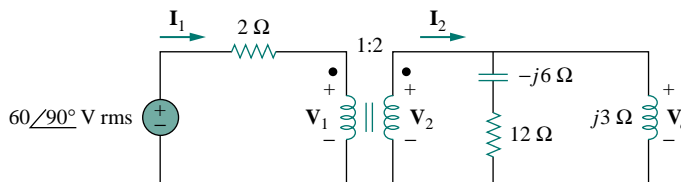

Figure 13.108 For Prob. 13.41.
- 13.41** For the ideal transformer circuit of Fig. 13.108 below, find: